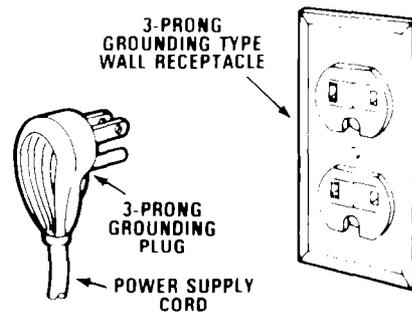

FIGURE 1
For your personal safety, this appliance must be grounded. This appliance is equipped with a power supply cord having a 3-prong grounding plug. To minimize possible shock hazard, the cord must be plugged into a mating 3-prong grounding type wall receptacle, grounded in accordance with the National Electrical Code and local codes and ordinances. If a mating wall receptacle is not available, it is the personal responsibility and obligation of the customer to have a properly grounded 3-prong wall receptacle installed by a qualified electrician. See Figure 1.
- Align the rear of the compactor with the cabinet opening. Plug the power cord into a properly grounded receptacle. See Figures 1, 2 and 8.